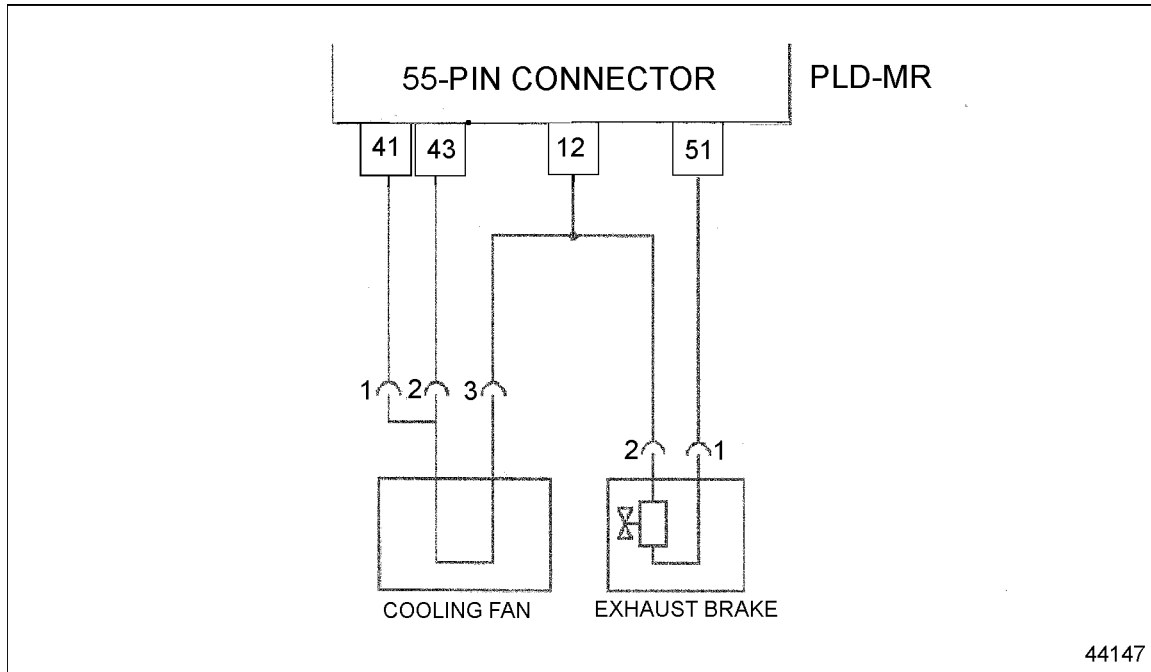

Figure 20-3 Exhaust brake and Cooling Fan Wiring
1. Measure the resistance between the 55-pin connector wires 12 and 51 of the bridged exhaust brake. See Figure 20-3.